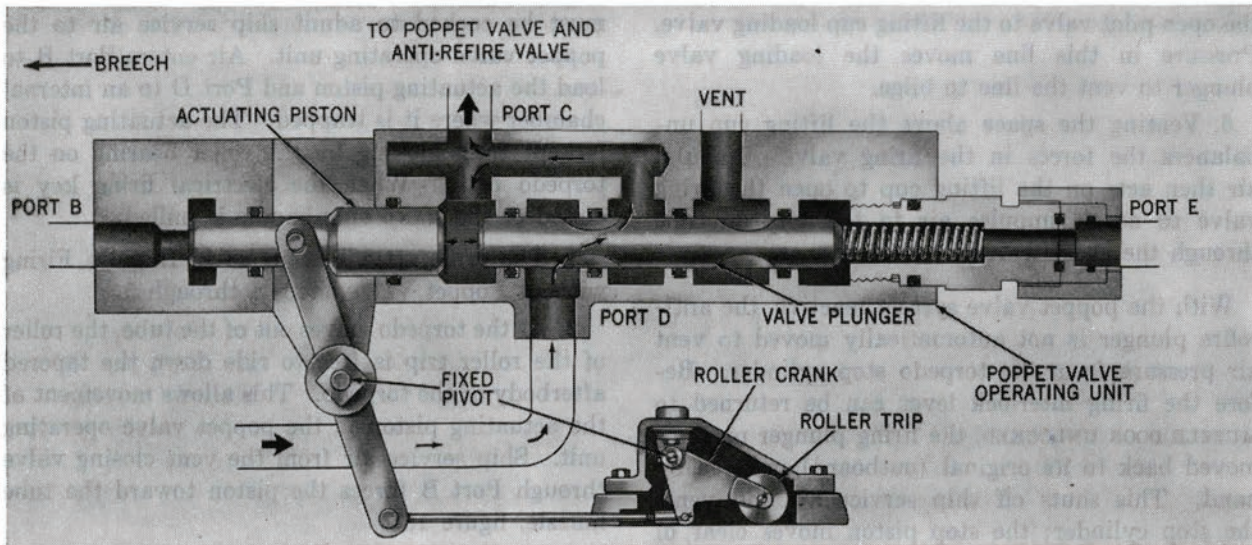

Figure 168—Firing Mechanism Schematic Diagram—Roller Trip Retracted.
3. Moved by the piston, the operating unit valve plunger opens Port D to the space between the piston and the plunger. Ship service air pressure holds the plunger in position; at the same time, it acts on a larger area of the actuating piston than that at Port B to force the piston smartly back to its original position, figure 168. The piston acts through its linkage to retract the roller trip quickly so that the roller will not foul the torpedo propeller shroud rings, if installed.